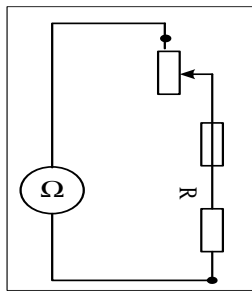

Figure 1 Phase resistance measurement
1. For preliminary measurements use the digital Multimeter to measure each phase resistance of the resistive load bank as per figure 1 while the resistance control position is at (40%) then enter each phase resistance value in Table 1. **Do not change the position of the resistance knob through the rest of the experiment.**